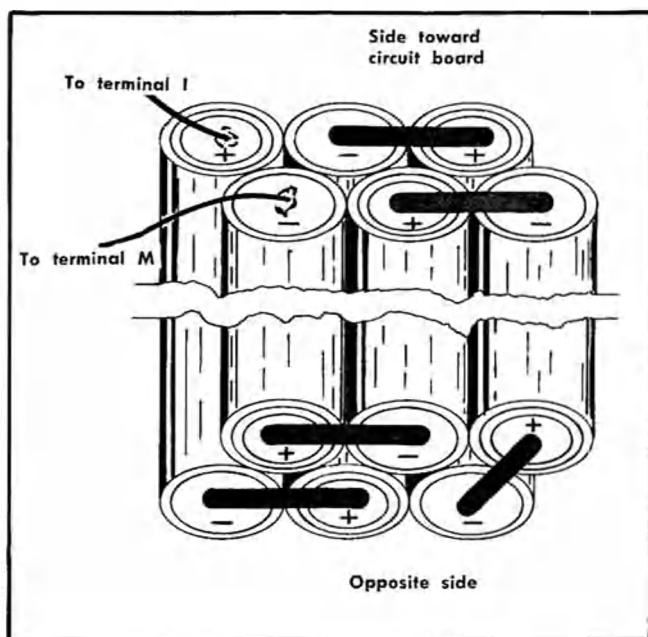

Fig. 4-11. Battery wiring.
**Battery.** The battery in the Power Pack is made up of six 1.25 V Nickel-Cadmium (NiCd) cells strapped together, series-aiding. See Fig. 4-11. Background information regarding these cells is given in the Operating Instructions section and should be read before any servicing is performed on the battery.
**Individual Cell Replacement.** When necessary, individual cells can be removed and replaced by cutting the straps which connect the two ends of the cell to the pack, and soldering in a new cell. See Fig. 4-11. The cell type specified in the parts list must be used. Other types may not function properly, despite operating claims. They may prove to be a hazard to the instrument and to personnel. Operating time and/or temperature performance may be degraded. If, in an emergency, a substitute must be made, the cell must be able to withstand a 180 mA charge rate. The cells should then only be used as long as is necessary to obtain the prescribed replacements. The battery should be charged for 24 hours at a FULL CHG rate after individual cells are replaced.